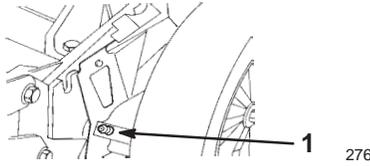

Figure 30
1. Wipe the grease fittings on the rear cutting height levers with a clean rag (Fig. 30).